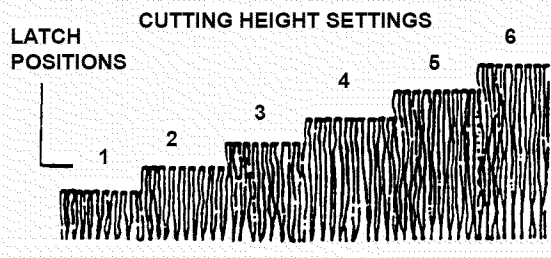

FIGURE 2.8
- Set all wheels at the same cutting height. The highest cutting position is Notch 6. The lowest cutting position is Notch 1. See Figure 2.8.